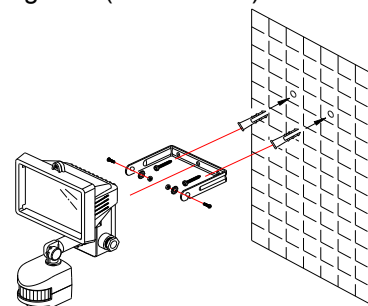

FIGURE 13
- (9) Re-attach the floodlight to the bracket and secure the cable to the wall using suitable clips. Ensure that the cable is not touching the body of the floodlight, and that there is sufficient slack in the cable to allow the floodlight to be tilted and adjusted as required, which should be done by grasping the metal body of the floodlight, not its rear wiring box. (FIGURE 13)